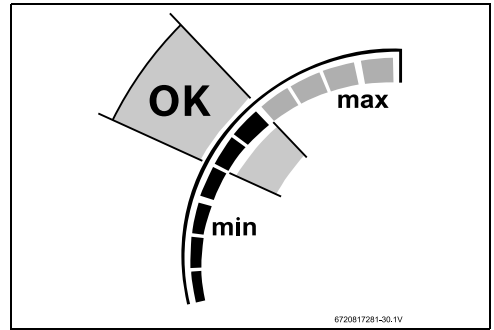

Fig. 47 Power bar middle point
- ▶ Verify if power bar level is at middle point, see fig. 47.
- ▶ Verify if power by level is at middle point, see fig. 47.